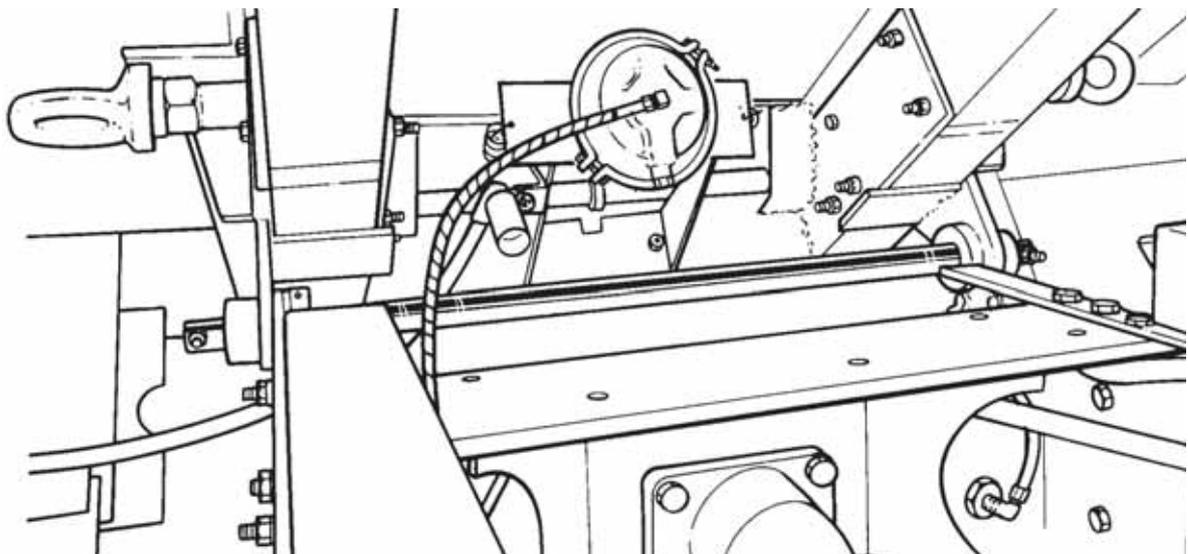

Figure 8 Tailgate Lock
9. The tailgate lock (Figure 8), is a similar unit to the body lock and is controlled independently by the operation of an air valve located beneath the lower right-hand side of the dash panel, near the driver's door. This lock secures the tailgate in the closed (travelling) position, until released by the driver. The tailgate lock can also be manually operated by inserting a bar into the lever welded to the lock rod and exerting force to overcome spring pressure.